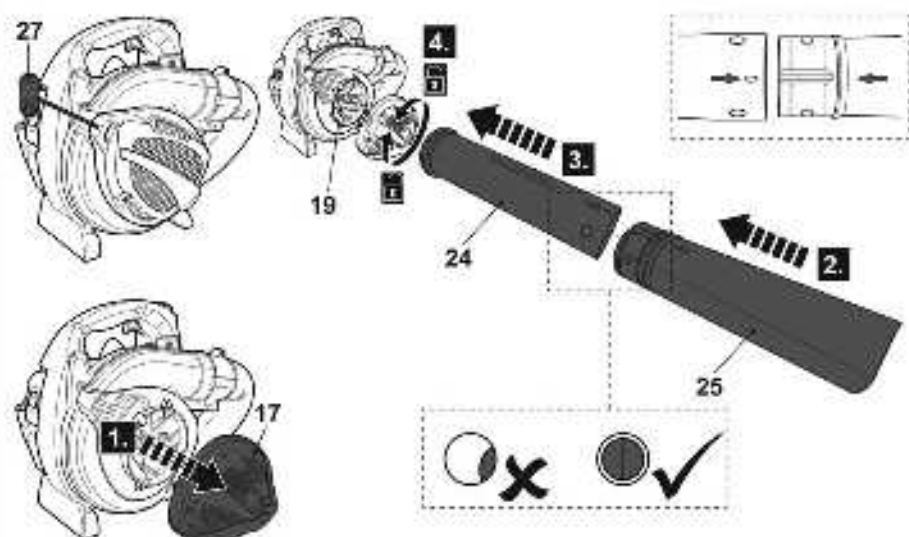

Fig. 3
- > Insert a proper tool (e. g. the multi tool (27)) into the locking hole (17a) and pry the lock block, then open the vacuum inlet cover (17) and hold it in position (Fig. 3, step 1).
- > Align the arrow-markings and insert the lower vacuum tube (25) into the upper vacuum tube (24) (Fig. 3, step 2). Ensure the pins properly engage in the holes.
- > Align the pins with the slots and insert the upper vacuum tube (24) into the vacuum inlet all the way to the stop (Fig. 3, step 3). Ensure the arrow-marking facing upward.
- > Turn the upper vacuum tube (24) anticlockwise to secure the connection (Fig. 3, step 4).